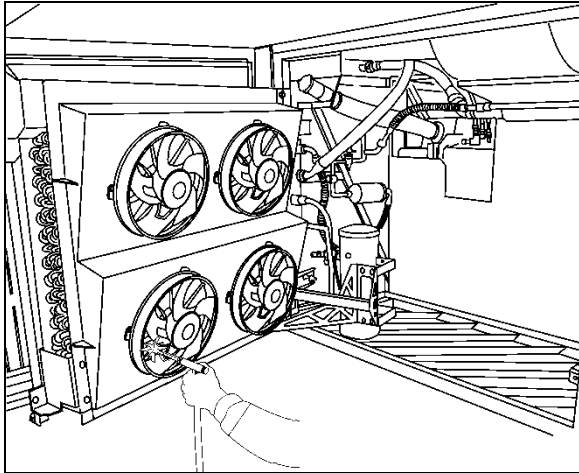

FIGURE 16: CLEANING PASSENGER'S UNIT CONDENSER COIL WITH LOW-PRESSURE AIR JET 22362
**Once a year**, clean the condenser with low-pressure air jet or a stream of low-pressure water, taking care not to damage fins (Figure 16).